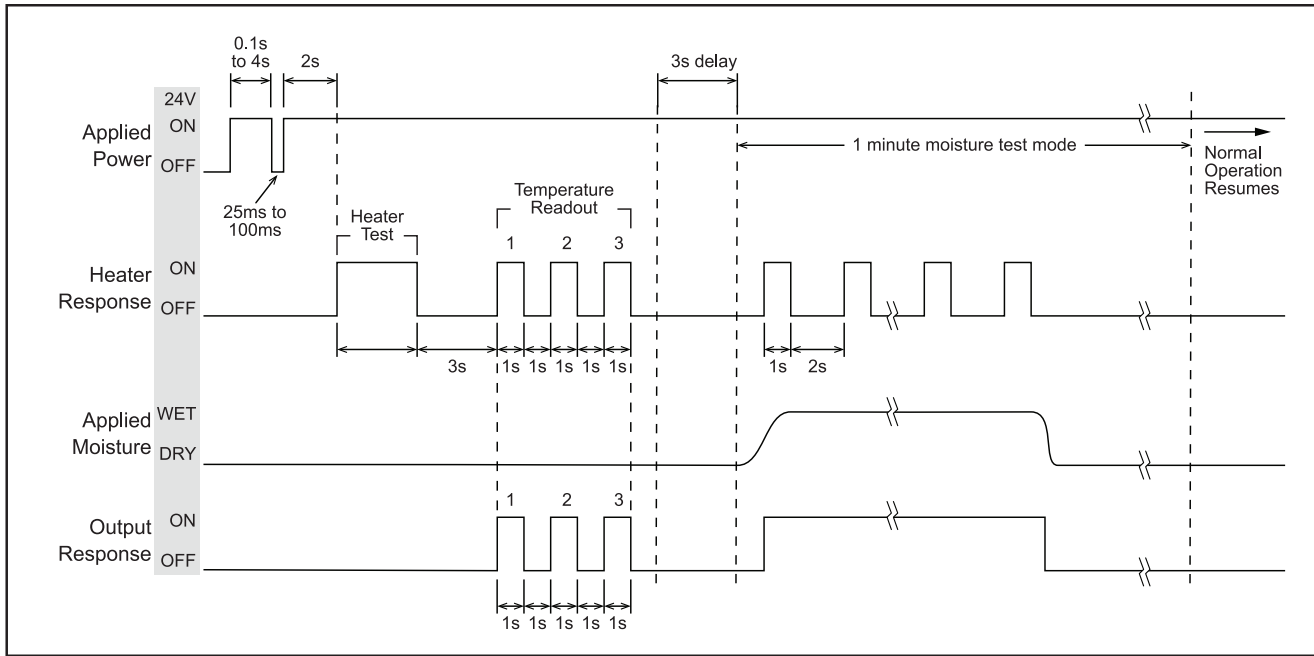

FIGURE 7. Sensor Self-Test Mode.
The self-test mode can be identified by the initial increase in current draw (part 5a, below). If that does not happen, it may be that self-test mode was not entered; this happens if the power-off pulse time is too long. In that case, remove power for at least two seconds, then repeat the off-pulse sequence (a-c) described above (Figure 7).
- b. As shown in Figure 7, the output and heater temperature, measured to the nearest degree F. One pulse means below 38, 2 means at 38, 3 means above 38, 4 means there is a problem.